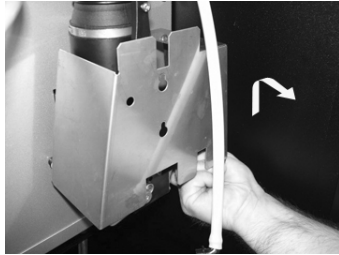

Figure 13b
- **Figure 13b** - Remove the Brewer splashguard by lifting the cover up and toward you.
- Refit the splashguard (Fig 13b).